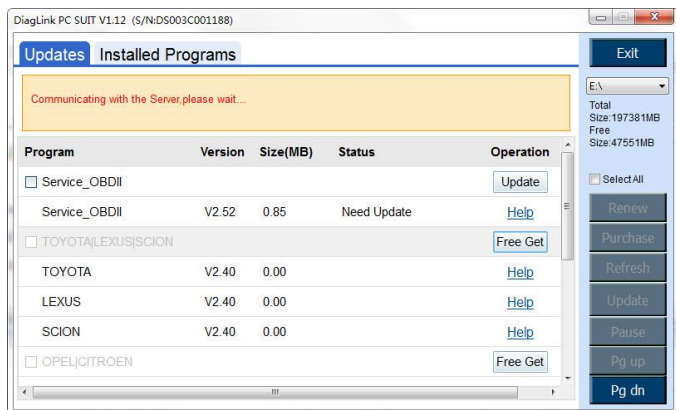

Figure 10.10
- 7) If your Autel ID is correct and valid, the program will establish communication with Server on-line and reload the list (Figure 10.10).